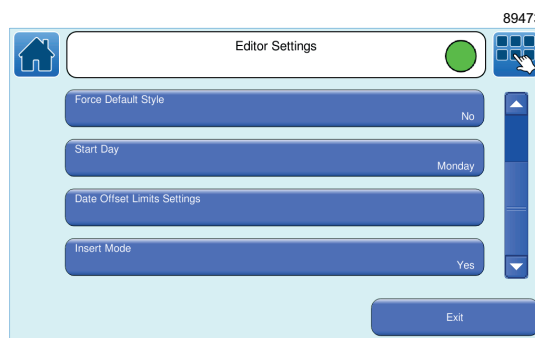

Figure 91. Editor Settings Screen
- 1 On the **Editor Settings** screen shown in Figure 91, scroll down to the **Insert Mode** button. By default this option is set to **No**. To enable insert mode touch the **Insert Mode** button. The option is now set to **Yes**.